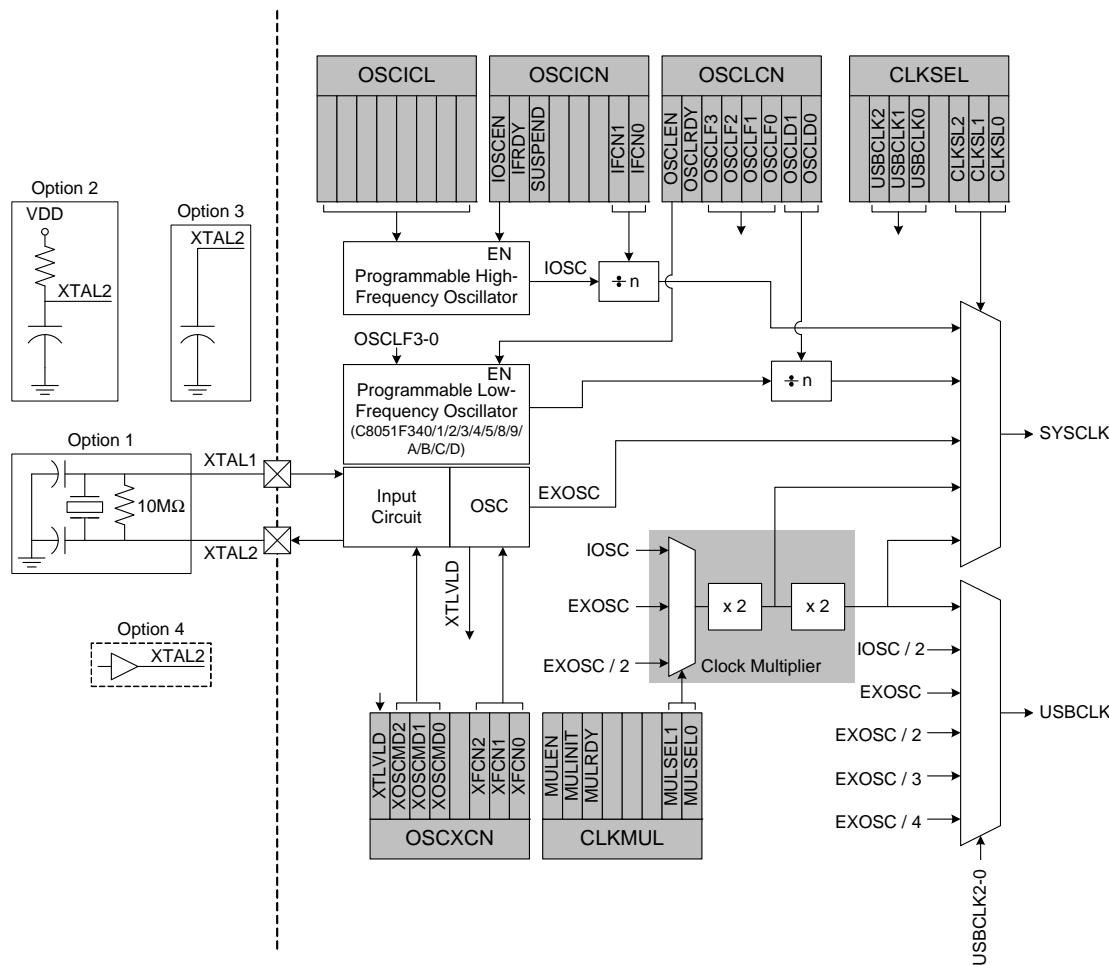

Figure 14.1. Oscillator Diagram
C8051F34x devices include a programmable internal high-frequency oscillator, a programmable internal low-frequency oscillator (C8051F340/1/2/3/4/5/8/9/A/B/C/D), an external oscillator drive circuit, and a 4x Clock Multiplier. The internal high-frequency and low-frequency oscillators can be enabled/disabled and adjusted using the special function registers, as shown in Figure 14.1. The system clock (SYSCLK) can be derived from either of the internal oscillators, the external oscillator circuit, or the 4x Clock Multiplier divided by 2. The USB clock (USBCLK) can be derived from the internal oscillator, external oscillator, or 4x Clock Multiplier. Oscillator electrical specifications are given in Table 14.1.
The external oscillator circuit may drive an external crystal, ceramic resonator, capacitor, or RC network. A CMOS clock may also provide a clock input. For a crystal or ceramic resonator configuration, the crystal/resonator must be wired across the XTAL1 and XTAL2 pins as shown in Option 1 of Figure 14.1. A 10 MΩ resistor also must be wired across the XTAL1 and XTAL2 pins for the crystal/resonator configuration. In RC, capacitor, or CMOS clock configuration, the clock source should be wired to the XTAL2 pin as shown in Option 2, 3, or 4 of Figure 14.1. The type of external oscillator must be selected in the OSCXCN register, and the frequency control bits (XFCN) must be selected appropriately (see SFR Definition 14.4)
If a crystal or ceramic resonator is used as an external oscillator source for the MCU, the circuit should be configured as shown in Figure 14.1, Option 1. The External Oscillator Frequency Control value (XFCN) should be chosen from the Crystal column of the table in SFR Definition 14.4 (OSCXCN register). For example, a 12 MHz crystal requires an XFCN setting of 111b.
If an RC network is used as an external oscillator source for the MCU, the circuit should be configured as shown in Figure 14.1, Option 2. The capacitor should be no greater than 100 pF; however for very small capacitors, the total capacitance may be dominated by parasitic capacitance in the PCB layout. To determine the required External Oscillator Frequency Control value (XFCN) in the OSCXCN Register, first select the RC network value to produce the desired frequency of oscillation. If the frequency desired is 100 kHz, let R = 246 kΩ and C = 50 pF:
If a capacitor is used as an external oscillator for the MCU, the circuit should be configured as shown in Figure 14.1, Option 3. The capacitor should be no greater than 100 pF; however for very small capacitors, the total capacitance may be dominated by parasitic capacitance in the PCB layout. To determine the required External Oscillator Frequency Control value (XFCN) in the OSCXCN Register, select the capacitor to be used and find the frequency of oscillation from the equations below. Assume V_{DD} = 3.0 V and C = 50 pF:
CRYSTAL MODE (Circuit from Figure 14.1, Option 1; XOSCMD = 11x) Choose XFCN value to match crystal or resonator frequency.
RC MODE (Circuit from Figure 14.1, Option 2; XOSCMD = 10x) Choose XFCN value to match frequency range: $f = 1.23(10^3) / (R \times C)$, where f = frequency of clock in MHz C = capacitor value in pF R = Pull-up resistor value in kΩ
C MODE (Circuit from Figure 14.1, Option 3; XOSCMD = 10x) Choose K Factor (KF) for the oscillation frequency desired: $f = KF / (C \times V_{DD})$, where f = frequency of clock in MHz C = capacitor value the XTAL2 pin in pF V_{DD} = Power Supply on MCU in volts